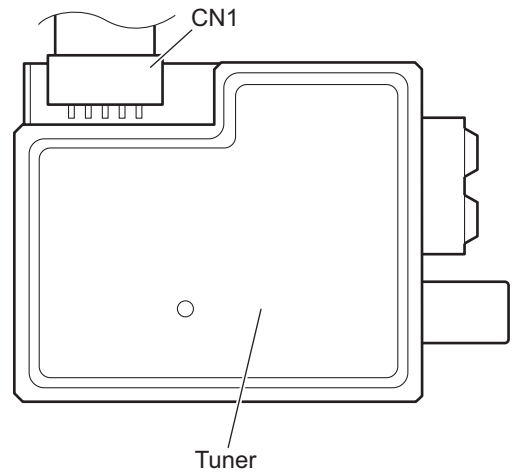

Fig.11
- Disconnect the card wire from the connector **CN1** on the tuner. (See Fig.11.)